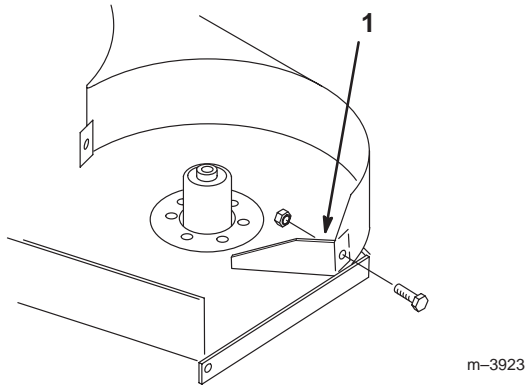

Figure 1
4. Flip up discharge chute and remove the discharge baffle near discharge opening (Fig. 1).